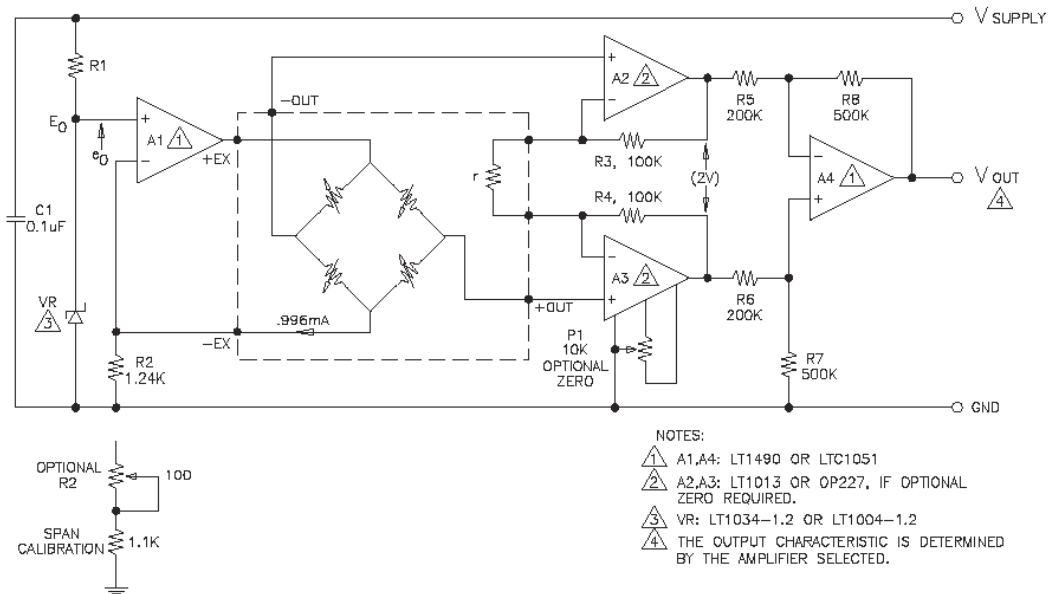

Figure 2 - Simple Signal Conditioning Circuit
The signal conditioning circuit shown in Figure 2 provides a precision constant current source for sensor excitation and an instrumentation amplifier with the gain programmed by sensor feedback resistor r . To correct for pressure non-linearity or to generate output options other than 0-5V please refer to Technical Note TN-001, "Signal Conditioning for IC Pressure Sensors."
If additional calibration and normalization are desired, resistor R₂ can be replaced with a series combination of a potentiometer and a resistor (Figure 2). The potentiometer can be adjusted to set the bridge excitation current (I) to achieve the exact span voltage (S) with full scale pressure applied to the sensor.